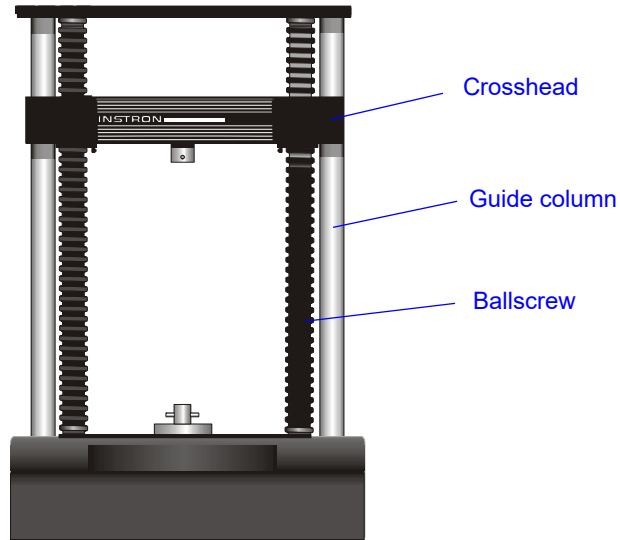

Figure 5-2. *Lubricating the Guide Columns on Floor Frames*
2. Detach the ballscrew covers from the crosshead and slide the covers away from the crosshead. Refer to Figure 5-2 on page 5-8 to locate the guide column inside the column cover.